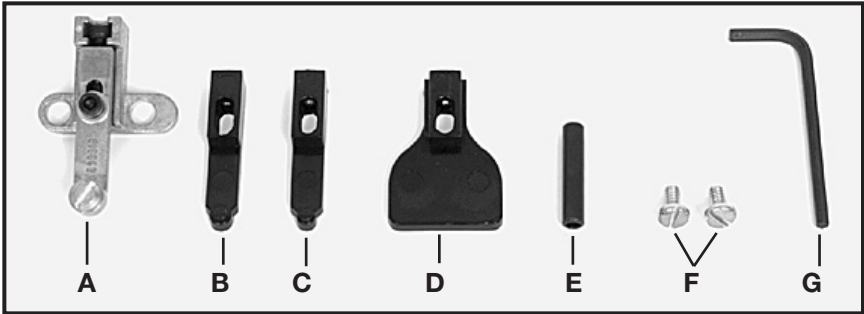
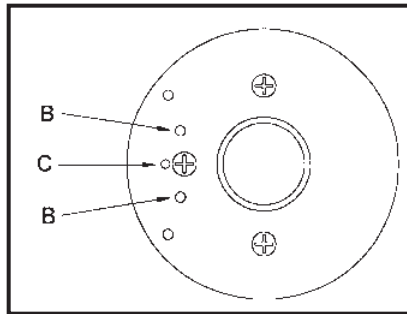

Fig. 2
Fig. 3
The Model 73100 Edge Guide Kit is available (as an accessory), for use with the Model 310 trimmer. The 73100 is designed for use with non-piloted bits, on curved or straight applications. Non-piloted bits can produce a 90° straight cut, a 10° bevel cut, or a 22° bevel cut. The kit contains the parts shown in Fig. 2. Install the 73100 guide as follows:
3. Position the base and roller guide assembly (A) Fig. 2, to the base unit. The alignment pin on the back of the guide base fits into hole (C) Fig. 3.
4. Place the two mounting screws (F) Fig. 2, through the guide base and thread into sub-base holes (B) Fig. 3. Tighten screws firmly.
3. Remove roller guide and replace with flush trimming guide (B) Fig. 2. This guide may be identified by the molded on letter “F”. The stud on the end of this guide must face toward the trimmer base.
4. Install guide setting gauge (E) Fig. 2, into trimmer collet (see TO INSTALL BIT). Install trimmer motor to base. Adjust guide so that hole in end of gauge may be positioned over the guide stud.
1. Follow Steps 1 through 5 under FLUSH TRIMMING, except install bevel trimming guide (C) Fig. 2. This guide is identified by the letter “B” molded onto it.
The straight edge guide (D) Fig. 2, maybe used with either bit for trimming straight edges.